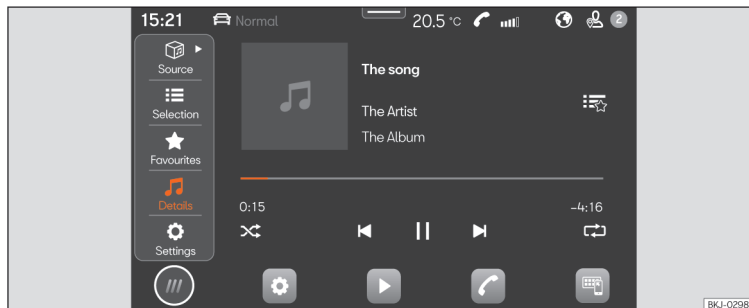

Fig.131 Schematic representation: Multimedia view
- Press **HOME > ► >>> Fig. 131.**